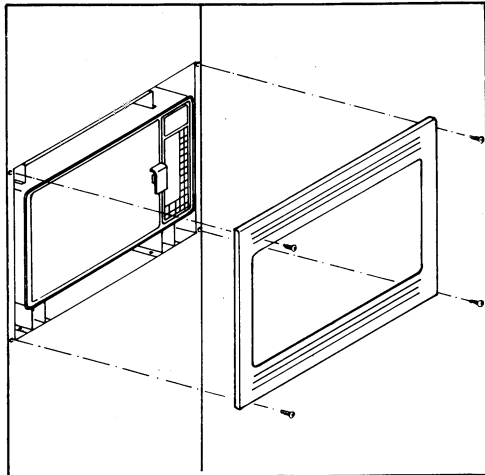

Fig. 6
4. Place the frame in position and fix it to the cabinet with four screws. Check and see if the door opens completely (Fig 6).